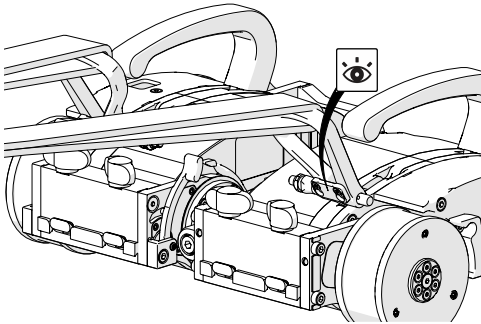

Fig. 82 - Proper shackle setup
1. The shackle plate (*Fig. 82*), in conjunction with the tether attachment point, provides the necessary clearance for scanning equipment.